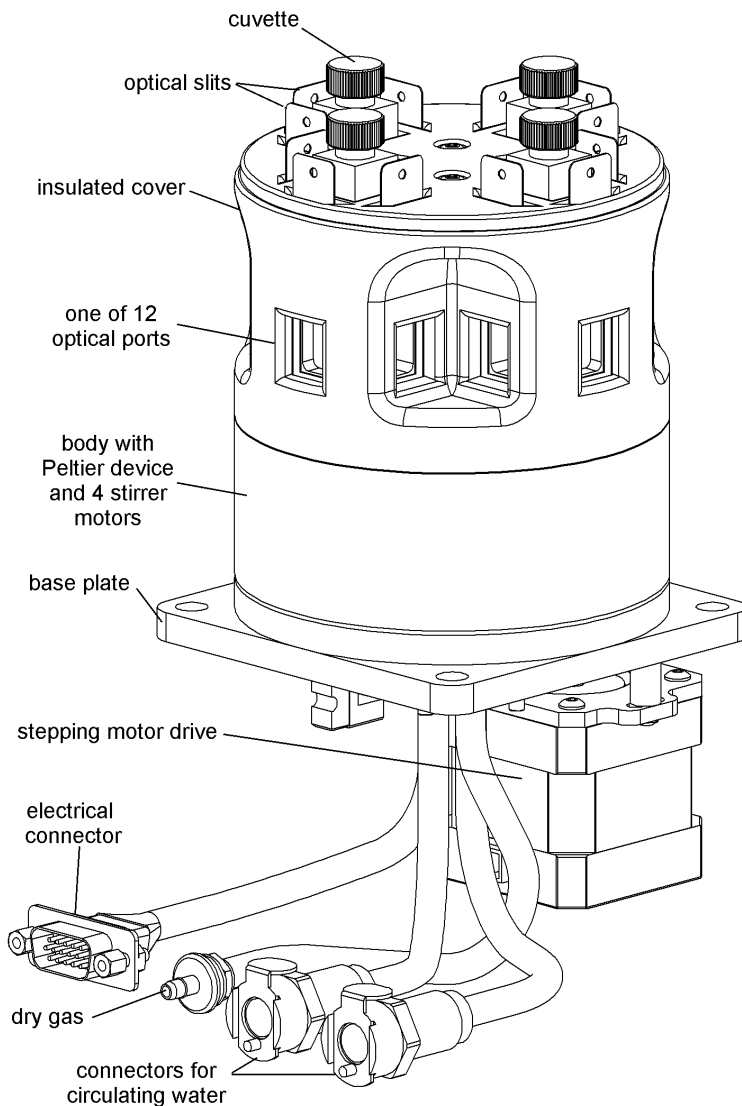

Figure 3. A typical configuration of a **Turret 4**.
1. Mount the **Turret 4** in the destination spectrometer. A typical configuration is shown in Figure 3 of this manual, although a wide variety of other configurations is available. Connections typically consist of a 25-pin electrical connector, two tubes carry circulating water for cooling the thermoelectric device, and one tube for dry gas used to prevent condensation on cuvette windows. Please contact Quantum Northwest at service@qnw.com for additional instructions, if needed.